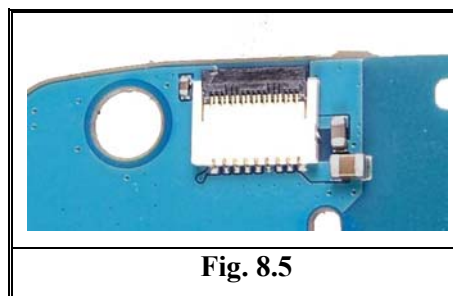

Fig. 8.5
- Check if the sub LCD flex-film is fitting correct into the FFC/FPC connector (*Fig. 8.5*) and check if the FFC/FPC connector is closed. Replace the FFC/FPC connector if necessary.
- Check if the FFC/FPC-connector sub LCD (*Fig. 8.5*) is mechanical damaged, dirty or oxidized. Replace the FFC/FPC connector sub LCD if necessary.